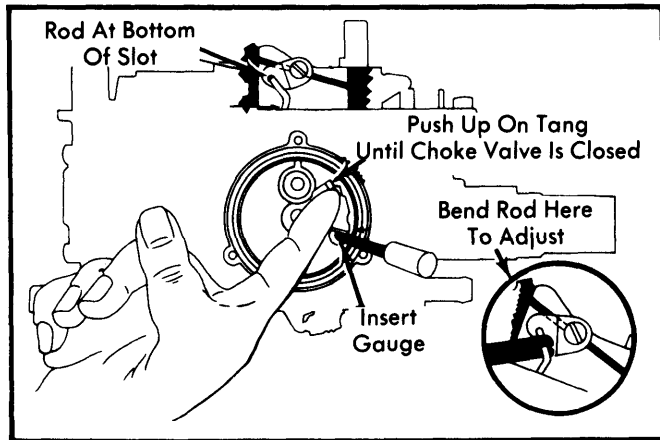

Fig. 4 Adjusting Choke Coil Lever
1) Loosen (3) screws retaining thermostatic cover and coil assembly and remove cover from housing. Press upward on thermostatic coil tang (counterclockwise) until choke valve is closed. See Fig. 4.